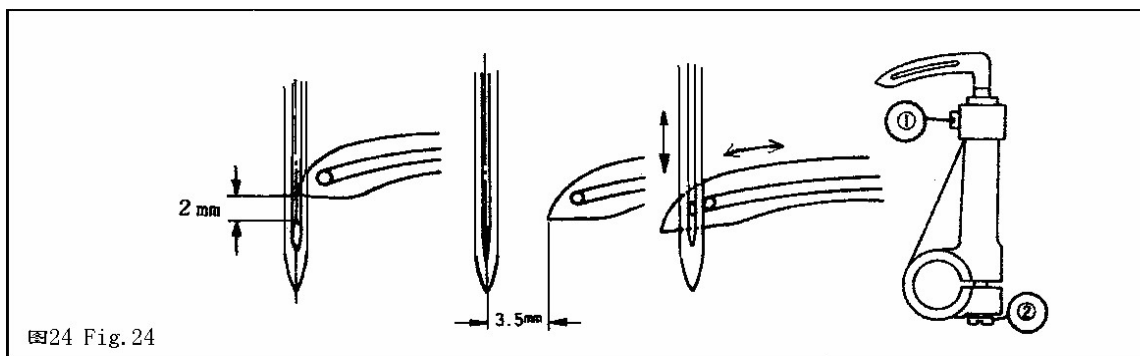

图24 Fig. 24
### 19. Thread-guiding amount of the looper (refer to Fig.24)
1. The standard value of the vertical distance of the point of the looper away from the upper end of the eye of the needle is 2mm, then the graduation mark on the lower part of the needle bar shall be in line with the lower end of the needle bar bushing, lower.(refer to Fig.24)
3. The relation between the eye of the needle and the eye of the looper is indicated in Fig.24.